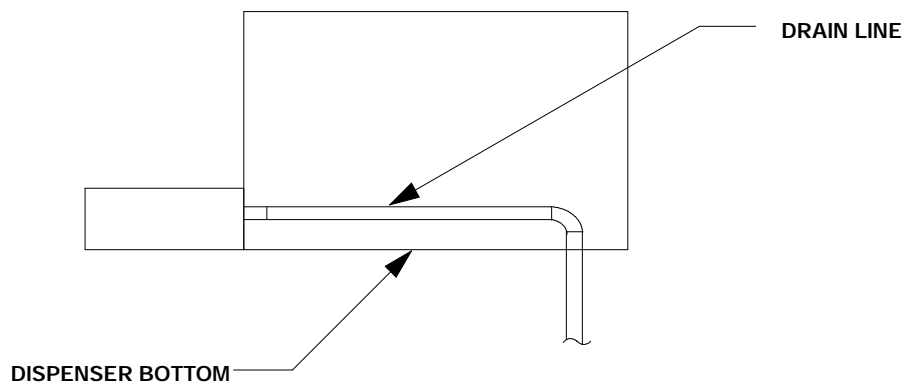

FIGURE 1. SINK DRAIN ASSEMBLY
2. To assure proper drainage, do not allow "trap" to form in drain line. Be sure drain line runs flat with bottom of dispenser (see Figure 1)